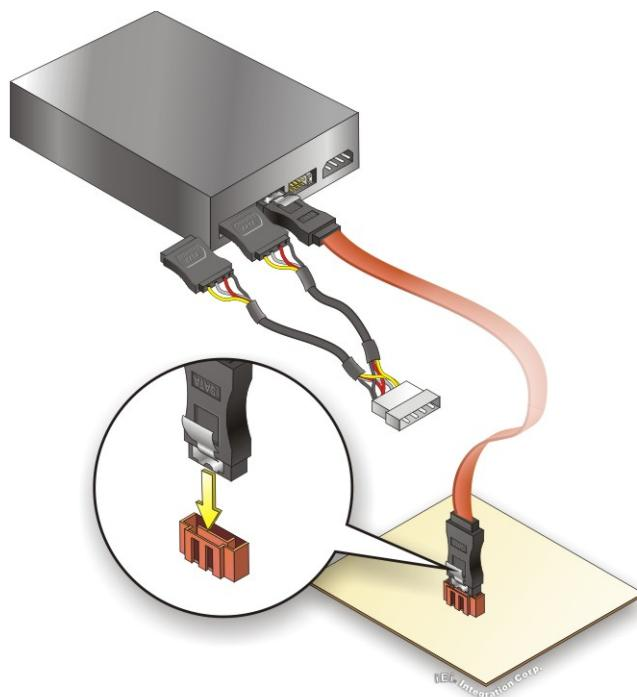

Figure 4-20: SATA Power Drive Connection
Step 3: Connect the cable to the SATA disk. Connect the connector on the other end of the cable to the connector at the back of the SATA drive. See **Figure 4-20**.
Step 4: Connect the SATA power cable. Connect the SATA power connector to the back of the SATA drive. See **Figure 4-20**.